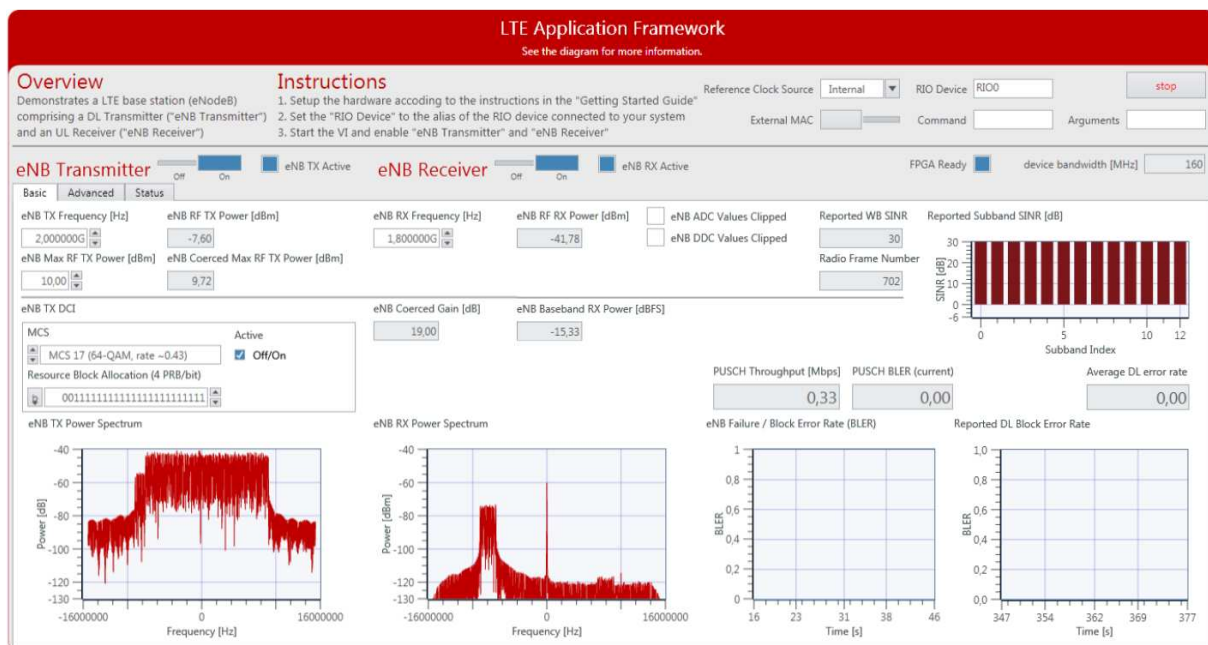

Figure 16 Front Panel of LTE Host eNodeB.gvi / Basic Tabs When Running Successfully
- e. The front panel of this VI is shown in Figure 16.